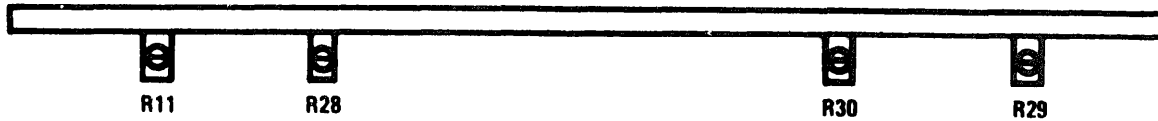

Figure 5-17. Adjustment Locations
5. Using the MANUAL SWEEP control set frequencies shown in Table 5-11 and make the indicated adjustments. Adjustment locations are shown in Figure 5-17. All adjustments must be ± 1 millivolt.